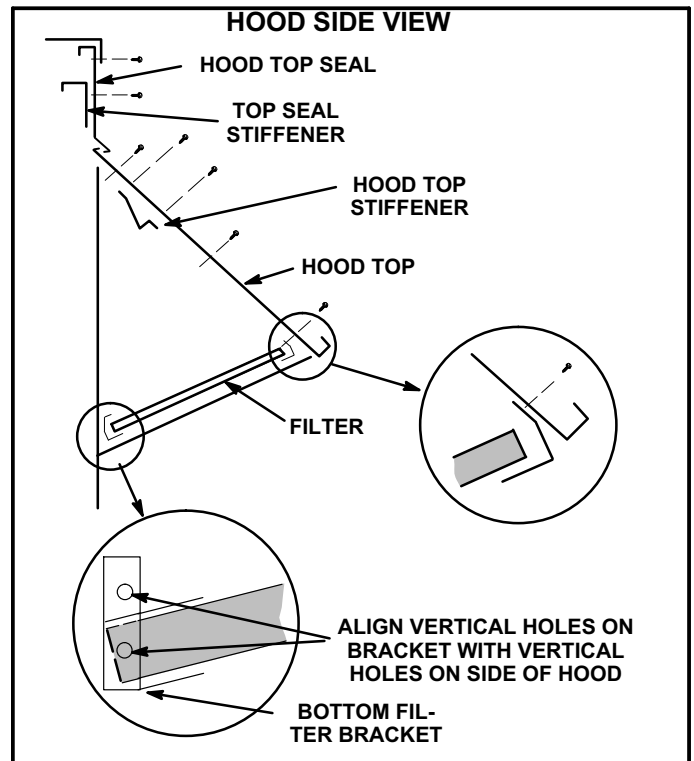

FIGURE 4
The outdoor air hood is packaged separately but attached to the damper assembly crate. Use #10 self drilling screws to install hood unless noted otherwise. Refer to figures 4, 5, 6, 7, and 8.
- 2- Secure top seal stiffener to back side of hood top seal. See figures 4 and 5.
- 6- Position the hood top edge V-channel under the corresponding V-channel on the hood top seal and slide into place from right to left. See figure 4 and 5.
- 15- Secure bottom filter bracket to right hood side in the same manner. See figures 4 and 8.
- 18- Insert the third filter into the bottom filter bracket. Position the top filter bracket (short) as shown in figures 4 and 6. Secure the bracket to the hood top with screws.